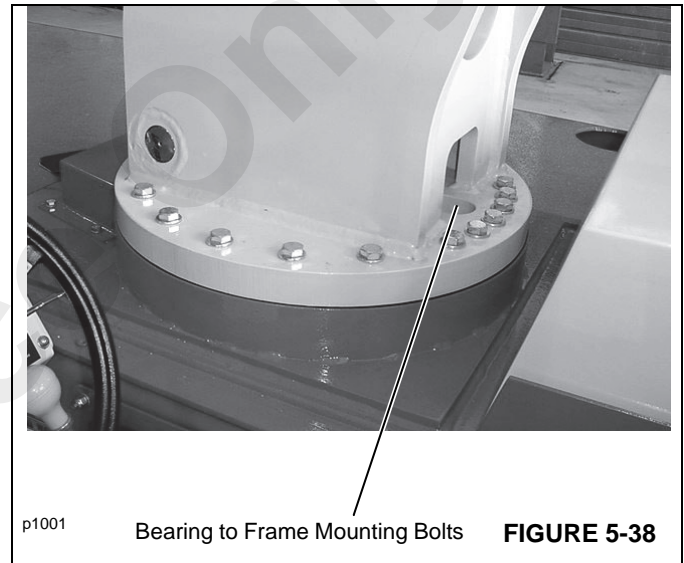

FIGURE 5-38
Torque the (24) 3/4" bearing to frame mounting bolts to 384 Nm (282 lb-ft). To gain access to the bolts, rotate the mast until a bolt is visible in the access hole in the mast mounting plate (Figure 5-38). Rotate the mast as needed and tighten each bolt in crisscross pattern (Figure 5-39) until all bolts are checked.